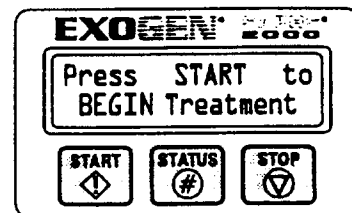

Fig. F.6.B
- f. Press the "Start (◊)" button and the display will activate. The system will automatically perform a self-test of all operations and functions. The display will indicate "SAFHS Model 2000 Self Test" (Fig. F.6.A) for approximately 2 seconds and will be followed by a display reading "Press START to BEGIN Treatment" (Fig. F.6.B) which will flash on and off for 5 seconds.